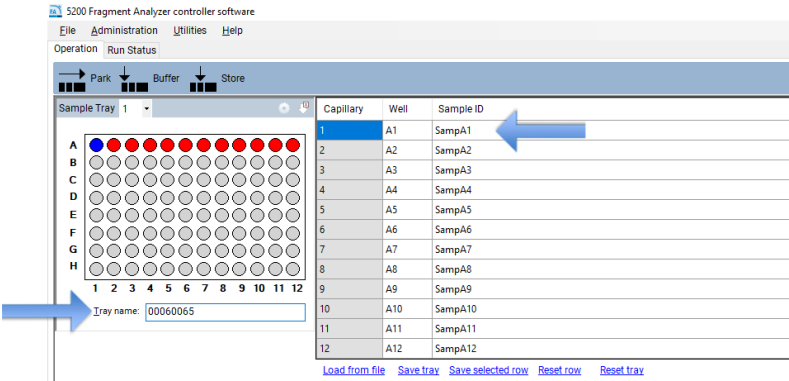

Figure 87 Imported sample names
- The file name and the sample names will be automatically imported from the .txt or .csv file of the *Samples* folder (**Figure 87**).